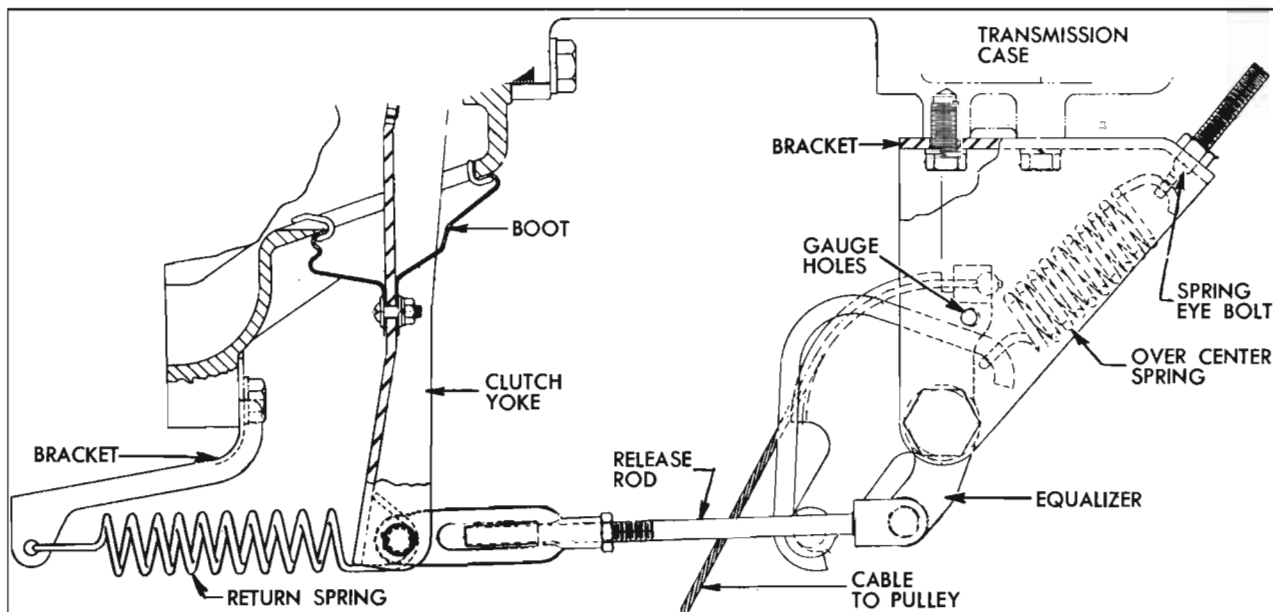

Figure 4-4—Lower Clutch Release Mechanism (from Above)
The pedal pivots on nylon bearings which do not require periodic lubrication. The cable runs over a pulley and is fastened to the equalizer. The pulley is adjustable so it can be aligned with the cable. The cable length is adjustable so that the equalizer can be properly positioned (par. 4-4). The correct equalizer position is such that the equalizer over center spring helps to hold the pedal firmly against the pedal bumper when the pedal is released. However, after the pedal is slightly depressed, the over center spring helps to reduce pedal pressure. This spring is attached to the equalizer bracket by an eye bolt, and to a pin on the equalizer by an extension which straddles the pivot point of the equalizer. See figure 4-4. The equalizer has a fitting which should be lubricated periodically (par. 1-1).
1. Make certain that return spring pulls clutch pedal firmly against pedal bumper when pedal is released. If pedal does not contact bumper, check pedal and linkage for binding or lack of lubrication. Check condition of release yoke return spring. Check condition of equalizer over-center spring and make sure that spring eye bolt is fully tightened. See figure 4-4.
2. Before making any clutch linkage adjustment, clutch equalizer must be in correct position. Position equalizer by inserting a $\frac{1}{4}$ " x $2\frac{1}{2}$ " pin through gauging hole in equalizer from bottom as it lines up with two holes in equalizer bracket. See Figure 4-4. If cable is too loose, pull slack out of cable until holes align; if cable is too tight, tension must be loosened at cable adjusting sleeve until $\frac{1}{4}$ " pin will be held in gauging holes.